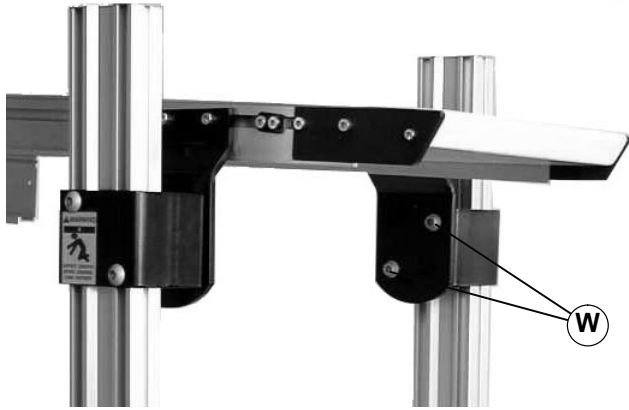

Figure 14
1. Loosen two flange socket head screws (W of Figure 14) on both sides of stand.
<p>! WARNING</p> <p>Failure to secure screws (W of Figure 14) may cause conveyor sections to drop down, causing severe injury.</p> <p>TIGHTEN SCREWS (W) AFTER ADJUSTMENT.</p>
3. Secure flange socket screws (W of Figure 14) to 24 ft-lb (18 Nm).